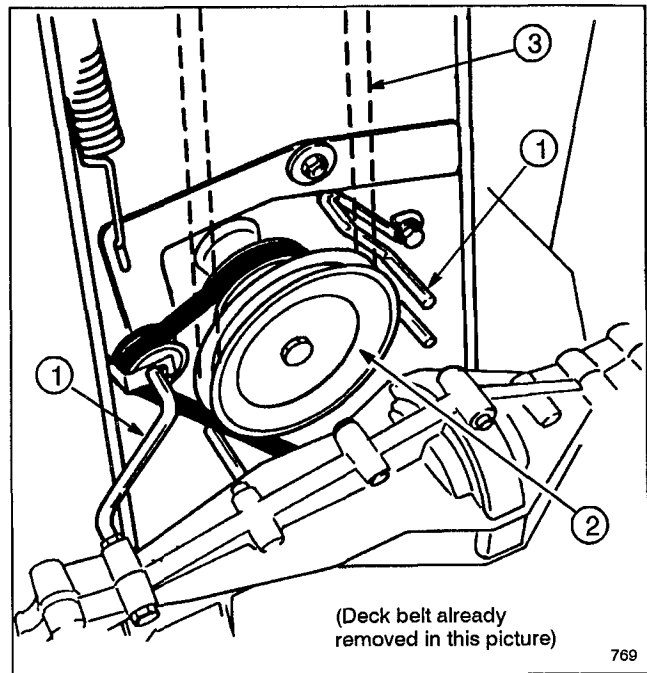

Figure 26
3. Loosen belt guides near engine pulley and rotate them out of the way. Remove deck belt from engine pulley (Fig. 26).
3. Loosen and remove (1) mounting screw securing each belt guide to cutting unit. Pivot belt guides away from spindle pulley and remove belt. Visually inspect belt for wear or damage (Fig. 26).
3. Remove deck belt from engine pulley (Fig. 26).